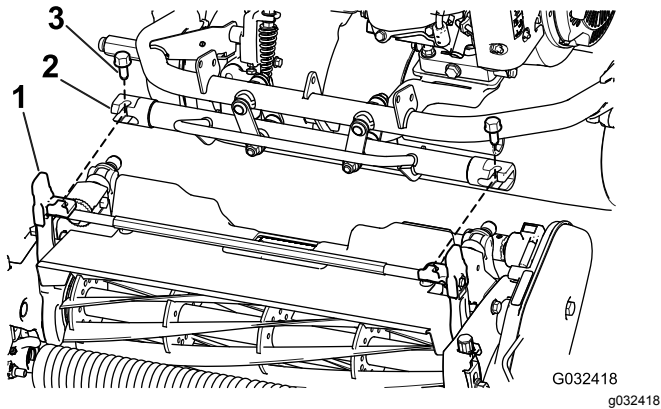

Figure 7
4. Maneuver the traction unit frame (Figure 7) forward until it engages the cutting unit pivot arms.
5. Secure the traction unit frame to the cutting unit pivot arms with 2 bolts (3/8 x 3/4 inch) (Figure 7).